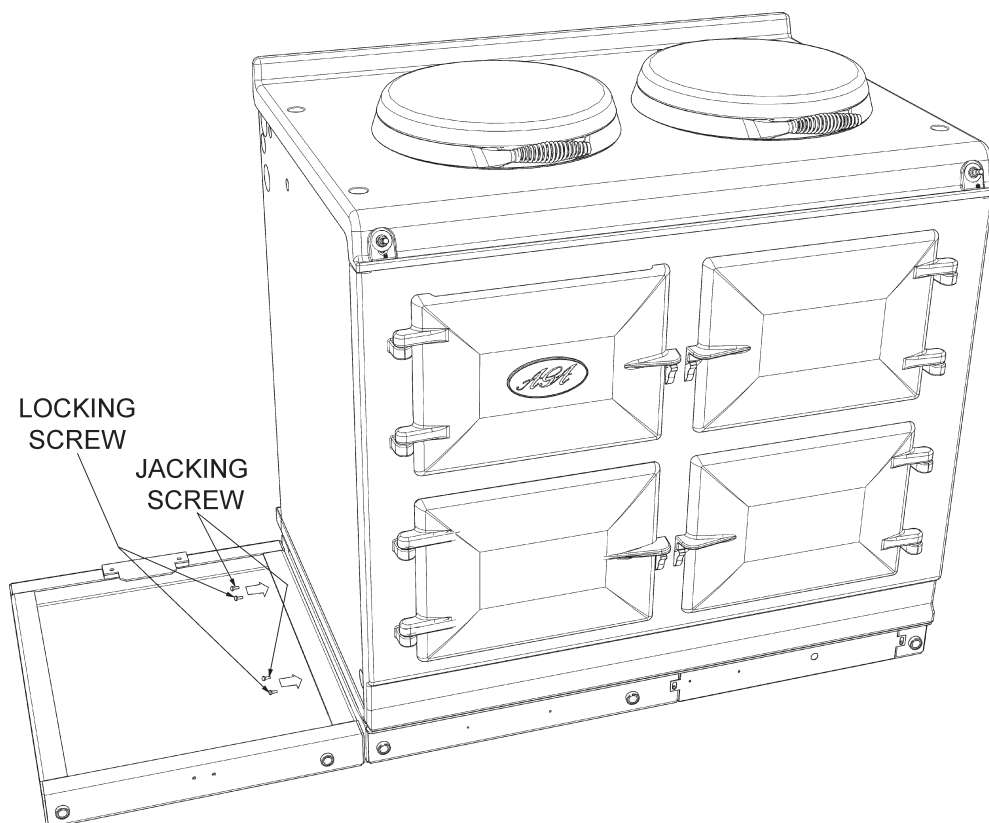

Fig. 14
3. Attach hotcupboard plinth to the AGA Dual Control plinth using M6 screws and washers provided (See Fig. 14).